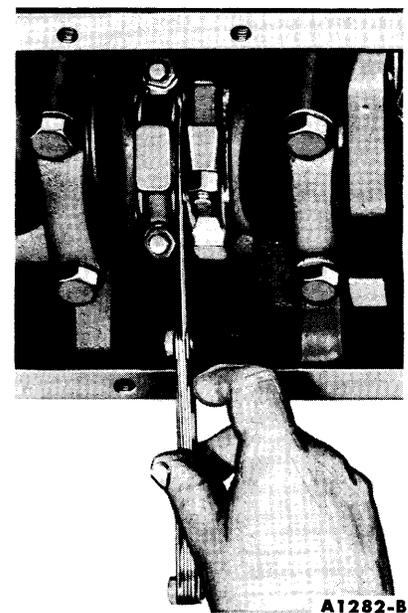

FIG. 61—Connecting Rod Side Clearance
9. After the piston and connecting rod assemblies have been installed, check the side clearance between the connecting rods on each crankshaft journal (Fig. 61).